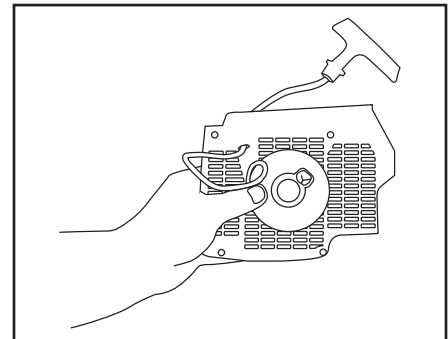

Figure 1
- Pull the cord out approximately 8" and lift the cord up into the notch in the pulley (Figure 1). Relax the recoil spring by placing thumb on pulley and gently allow the pulley to unwind entirely. Undo the screw in the center of the pulley and remove the pulley.